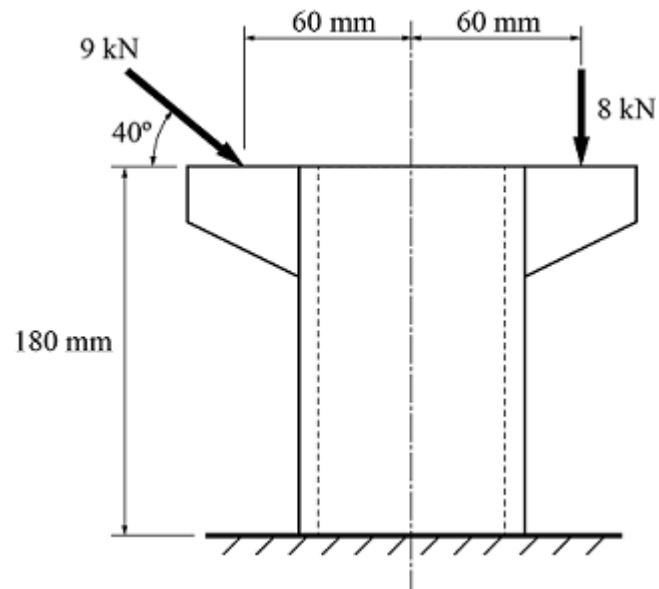

Fig Q9
9. A short vertical hollow cylindrical column, 180 mm high and fixed at the base, is 90 mm outside diameter and 8 mm thick. It carries concentrated loads of 9 kN and 8 kN as shown in Fig Q9.